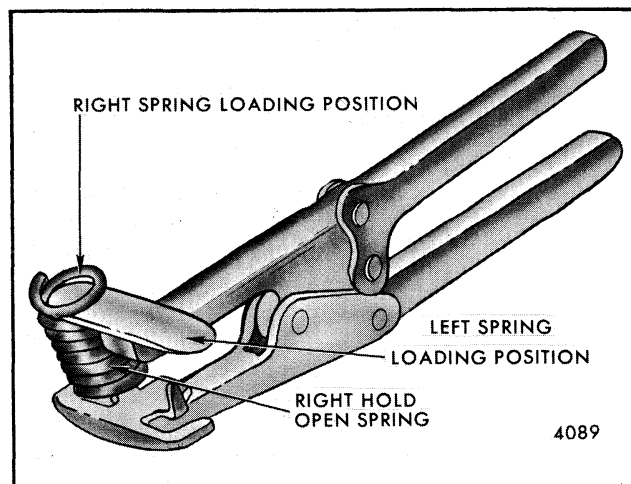

Fig. 5-72-Hold-Open Spring, Loading Positions Using Tool J-23497 or Equivalent - "X" Styles
2. Using spring compressing tool (J-23497 or equivalent), install hold-open spring in lower hinge (Figs. 5-72 and 5-73).
NOTE: When installing hold-open spring on tool J-23497 or equivalent, position spring so that the cut end of the spring is in line with the center of the blade on the straight jaw. Figure 5-72 illustrates position of spring for right side installation (left side installation would utilize the other end of the blade). The other end of the spring should be seated over the hook on the opposite jaw of the tool.